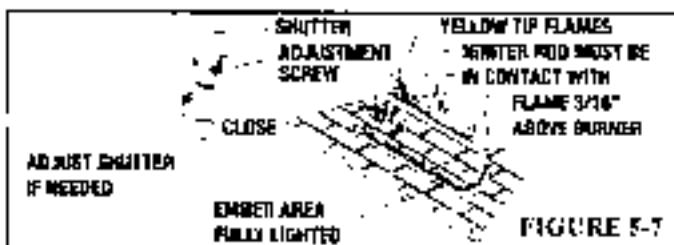

FIGURE 5-7
9. Periodically perform a visual check of your appliance's flame pattern. Refer to Figure 5-7.